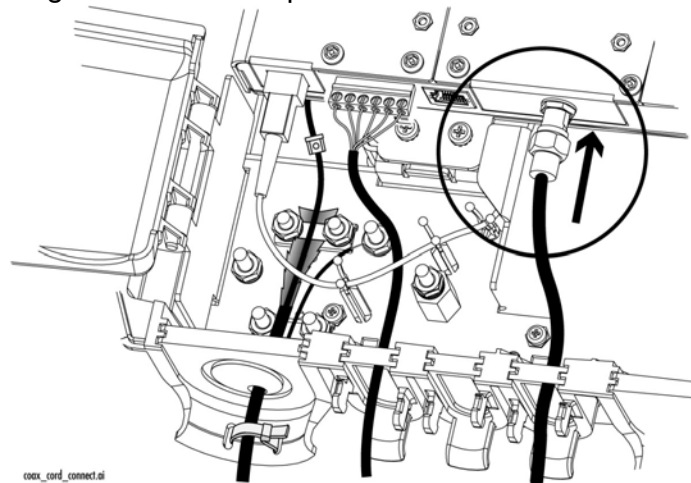

Figure 9. Connecting to coax cable
3. Connect the coax cable to the HPNA card, as shown in Figure 9.